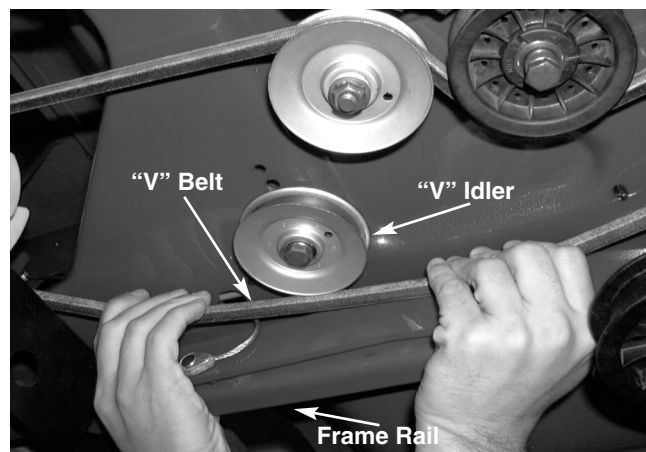

FIGURE 5.
12. Squeeze both hands and release the "V" belt from the "V" idler. See figure 5.